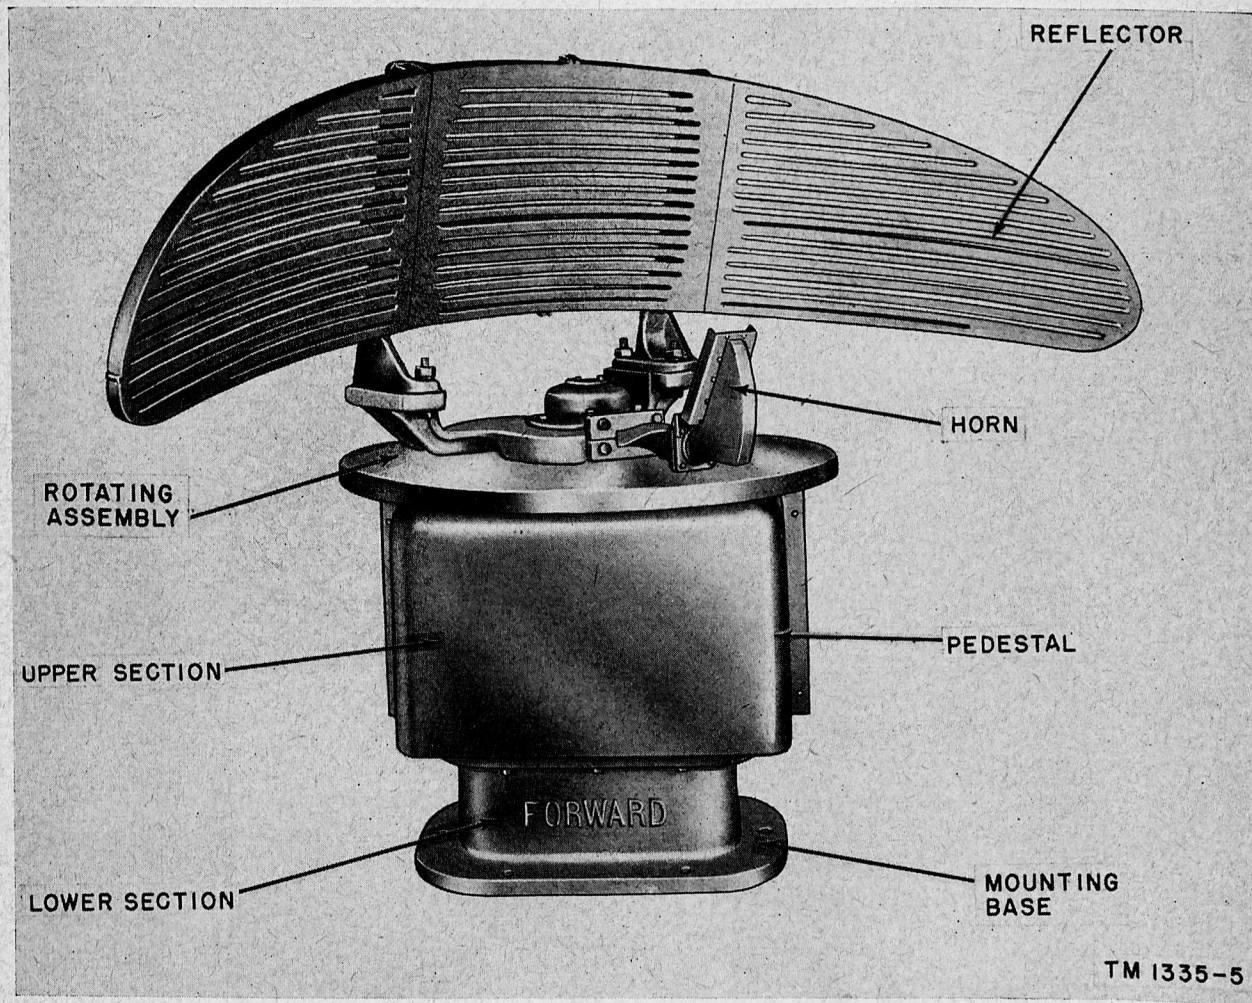

Figure 2. Antenna AS-599/SPN-11.
The antenna assembly consists of a pedestal and a rotating assembly (fig. 2).
b. Rotating Assembly. The rotating assembly consists of a circular plate (rotating head) to which the antenna horn and reflector are bolted (fig. 2).
- (1) The antenna horn is a special waveguide section with a sealed, rectangular plastic window. During transmission, the horn radiates r-f (radio-frequency) energy to the reflector; during reception, the horn receives r-f signal energy from the reflector.
- (2) The parabolic reflector is made of cast aluminum, and the reflecting surface is protected by an anodized coating. During transmission, the reflector concentrates r-f energy into a narrow beam in the direction that the antenna is facing; during reception, the reflector picks up and directs signal energy into the antenna horn.